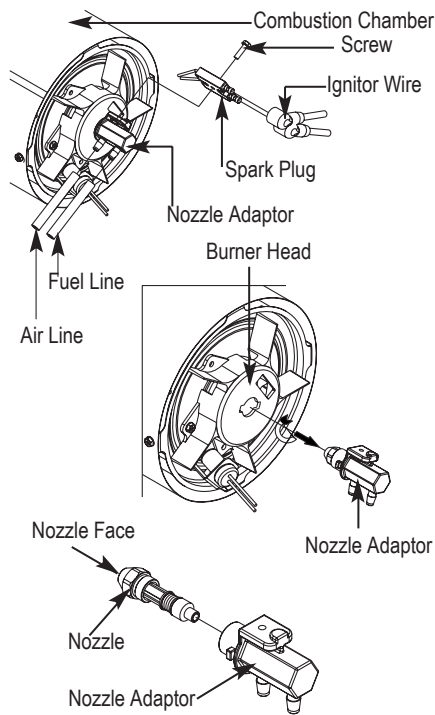

Figure 16 – Nozzle Replacement For Models CP045DK-CP175EK
- Turn nozzle adaptor 1/9 turn(40°) to counter clock wise and pull toward motor to remove. (See Figure 16)